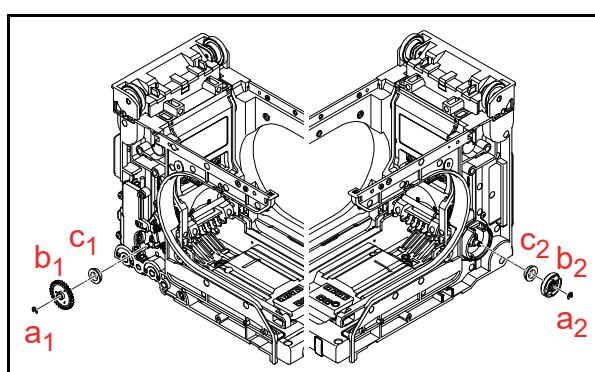

**Figure 4-21** LED Board Removal
1. Release the single (1) Locking Tab (Figure 4-21 **a**) and remove the LED Board (Figure 4-21 **b**).
2. Unplug the FPC Harness (Figure 4-21 **c**).